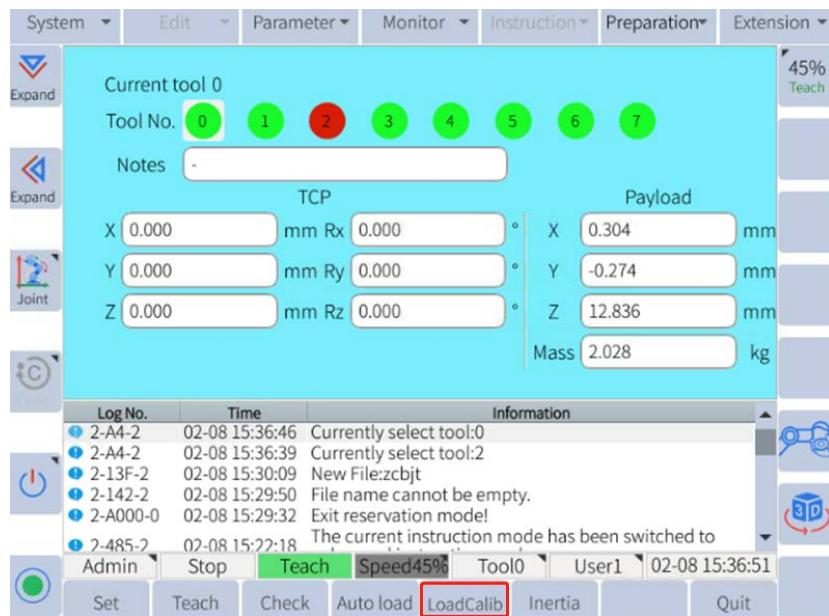

Figure 6-35: LoadCalib at the bottom
2. Select a tool number and click **LoadCalib** at the bottom, as shown in **Figure 6-35**.